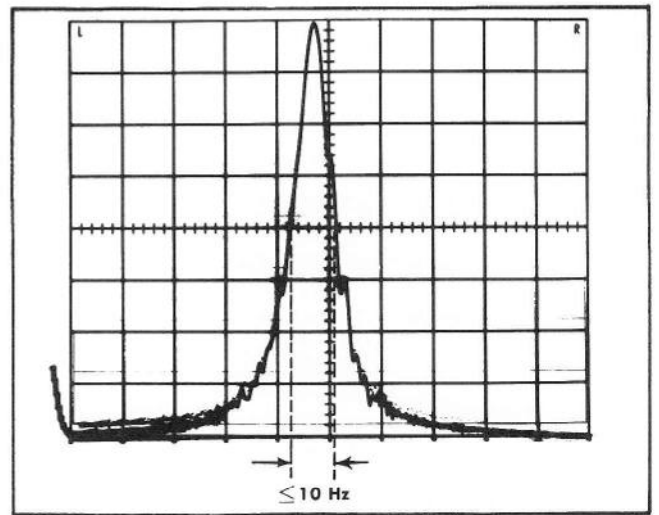

Fig. 6-10. Measuring resolution bandwidth.
k. Check for a symmetrical display and a resolution bandwidth that is 10 Hz or less at the  $-6$  dB points. See Fig. 6-10. (Sweep rate must be  $.5$  s/div or slower.)